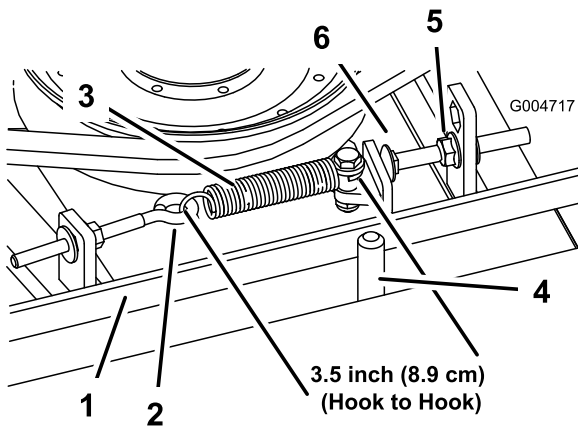

Figure 70
When properly tensioned, the inside measurement of the extension spring (hook to hook) should be approximately 8.3 to 9.5 cm (3-1/4 to 3-3/4 inches). Once the correct spring tension is attained, adjust the stop bolt (carriage bolt) until there is approximately 2 to 5 mm (0.065 to 0.185 inch) clearance between the head of the bolt and the idler arm (Figure 70).
Note: Ensure that the belt is positioned on the spring side of the belt guide (Figure 70).
2. Loosen the eye bolt allowing the removal of the extension spring (Figure 70).
3. Loosen the flange nut securing the stop bolt to the mounting tab and move the idler pulley away from the belt to release the belt tension (Figure 70).
9. Connect the extension spring (Figure 70) to the eye bolt and tension the belt as follows: